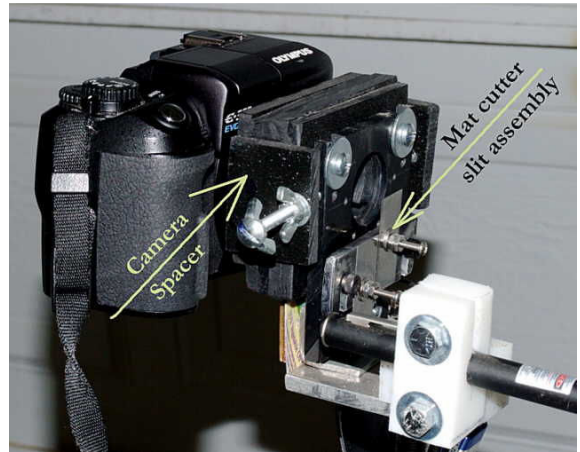

Fig. 13. Camera Spacer.
- E2 = Slit to lens mount distance – Fig. 13 and 14
- Mount the *Mat Cutter Slit Assembly* – Fig. 13.
7. Attach the E-300 to the Camera Spacer – Fig. 13.